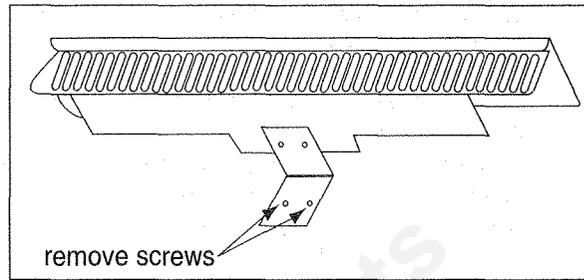

Figure 32
Step 2 - Remove these in the following order: logs, rock wool and vermiculite. Remove the rock wool tray by unfastening the two screws on the bracket between the two middle grate bars. See Figure 32. Set aside. Remove grate by unfastening the screws on the two brackets located on the side toward the back. Set aside grate.